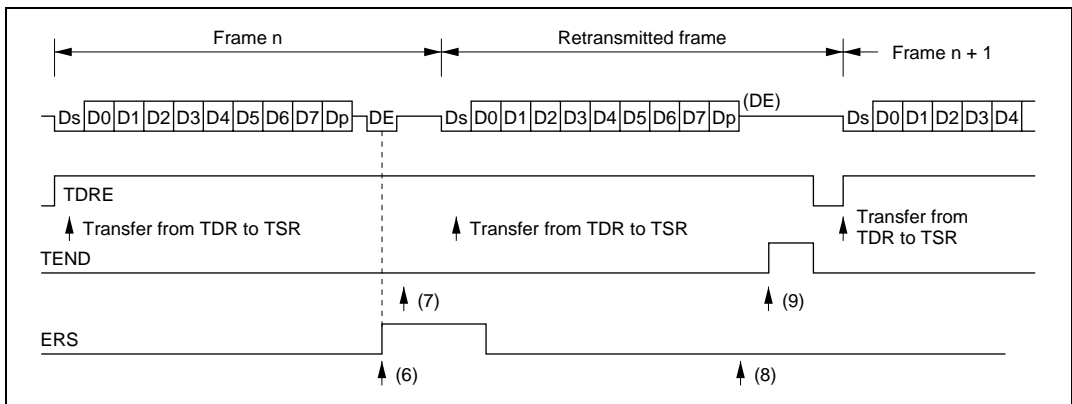

Figure 14.12 Retransmission in SCI Transmit Mode
- Retransmission when SCI is in Transmit Mode (See Figure 14.12)